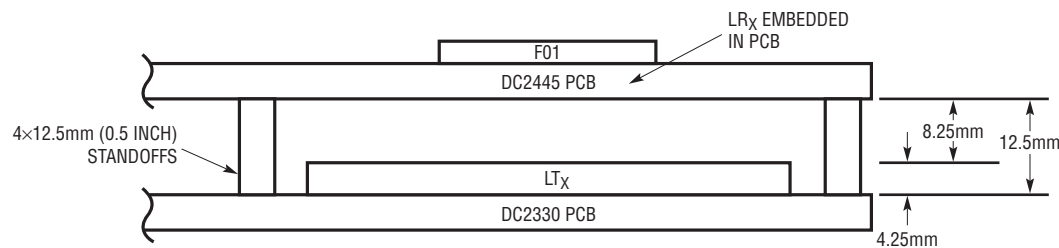

Figure 3. As Shipped Demo Kit Air Gap
- 1 × DC2445A-A/DC2445A-B (LTC4120EUD) Demo board (with 12.5mm (0.5") Nylon Standoffs, 8.25mm Gap), see Figure 3
This should result in the transmit antenna being directly above the receive antenna, with the centers aligned. The standoffs on the DC2445A-A/DC2445A-B are 0.5"(12.5mm) when shipped. This results in an air gap of 8.25mm (See Figure 3). The DC2386A kit ships with three additional standoff sizes. This allows the air gap to be varied from 0.083" (~2.0mm) to 0.46" (~11.6mm).